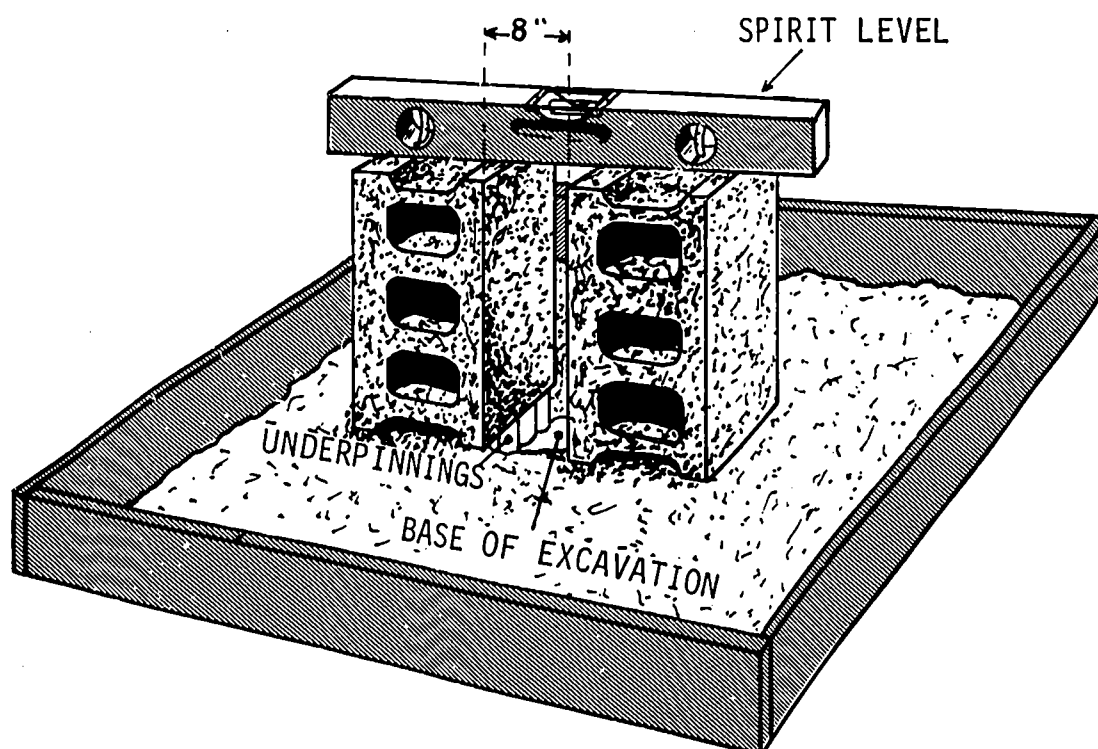

Fig. 35-1. Preparing for Excavation
4. Carefully place two concrete blocks 8" apart on end (in an upright position) on the packed sand. These blocks will represent two buildings. See Fig. 35-1.
6. Using spoons, excavate the sand from the area between the two blocks until the bottom of the site box can plainly be seen. The bottom of the site box will represent the bedrock, a solid base. See Fig. 35-1. You are to excavate the total area between the blocks. You must *avoid cave-ins or settling* of the structures (blocks).
7. If necessary, remove enough sand from under both concrete blocks so that underpinning blocks can be put in place. Recall the transparency on underpinning. See Fig. 35-1.